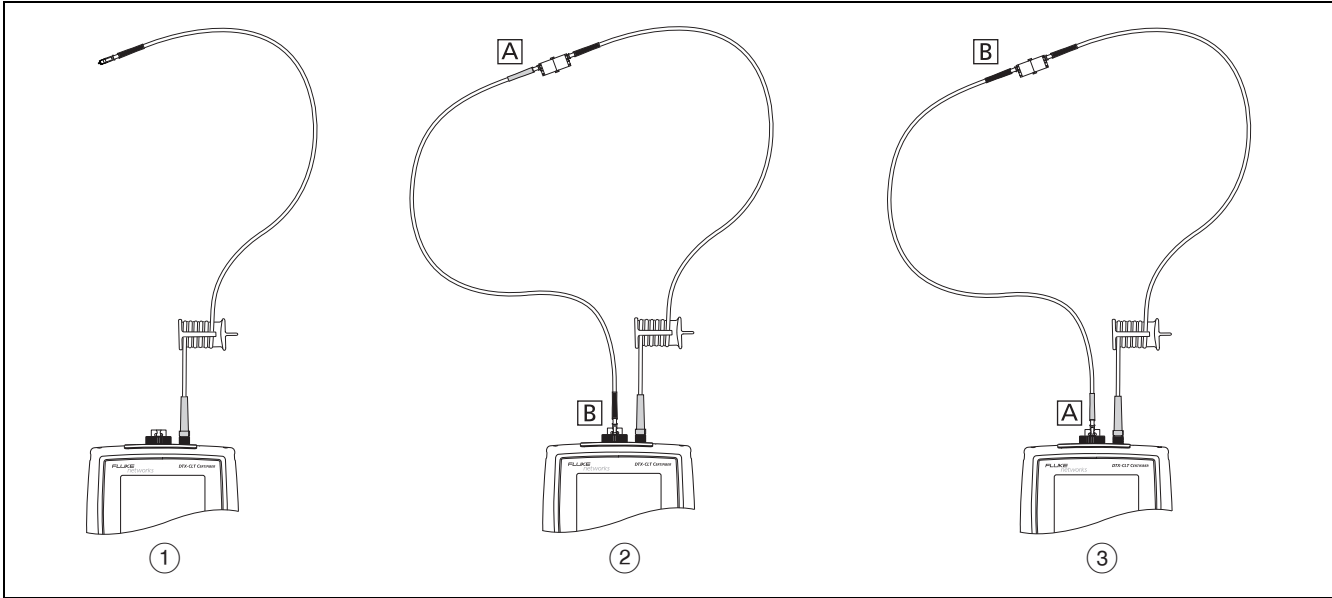

Figure A-4. Connections for Testing a Test Reference Cord
- 4-1 Disconnect the test reference cord from the INPUT port of the tester (Figure A-4, ①).
- 4-2 Connect the cord you want test (Figure A-4, ②).
- 4-3 Turn the rotary switch to **AUTOTEST**, then press . This test measures the loss of connector  shown in Figure A-4.
- 4-4 When the first part of the test is completed, connect the cord in the opposite direction (Figure A-4, ③).
- 4-5 Press  **OK**. This test measures the loss of connector  shown in Figure A-4.